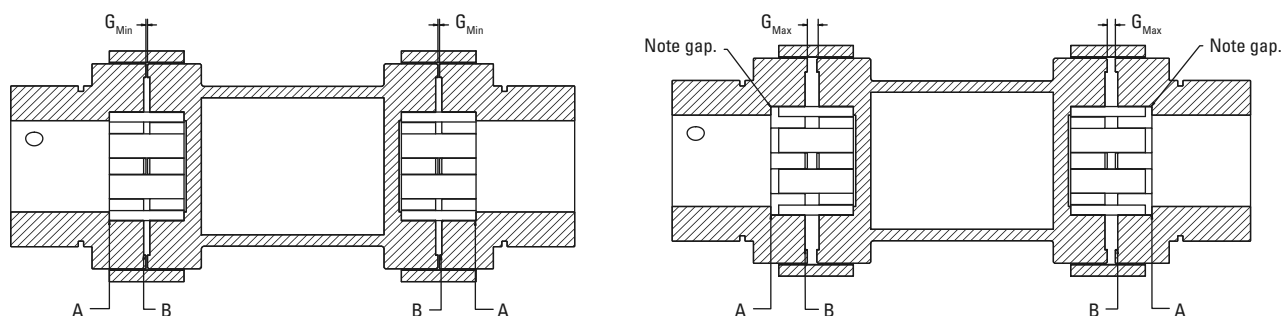

Fig. 10. Proper shaft-to-hub engagement.
4. Install the hubs. They should be mounted so the end of the shaft is flush with surface "A" as shown in fig. 10.
5. Install the spacer body and inserts. Slide all three components (spacer body and two inserts) tight to one side and check the gap from the insert face to hub flange face shown as surface "A" in fig. 10. This should not exceed $[(2 \times G_{Max}) - (2 \times G_{Min})]$ using the appropriate minimum hub gap (G_{Min}) and the maximum hub gap (G_{Max}) from table 20. If this gap exceeds your calculation, adjust one or both hubs to set within specs, paying attention not to have the shaft end extend past surface "B" as shown in fig. 10.